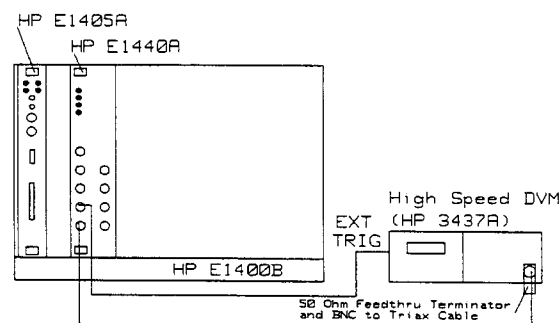

Figure C-7. Function Amplitude Accuracy Test Set-Up
6. **Function Test.** Set up the equipment as shown in Figure C-7.